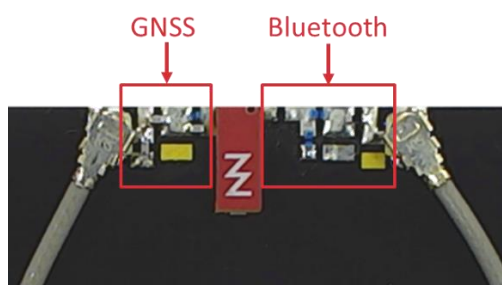
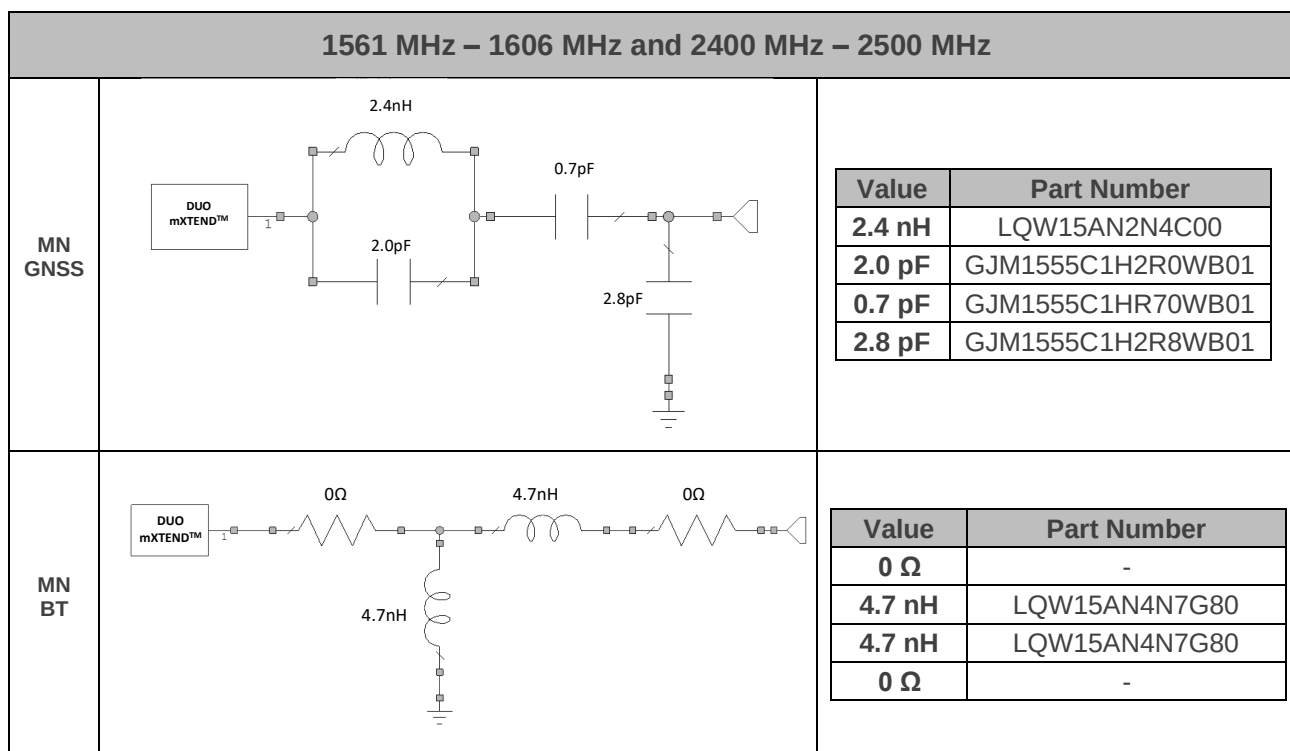

Figure 2 – Matching network distribution in the Evaluation Board (Figure 1).
Figure 3 – Matching network implemented in the Evaluation Board 1 port (Figure 1).
The DUO mXTEND[™] needs two matching networks to connect to your device, a first for the Bluetooth port, a second for the GNSS one (Figure 2). This section describes (in Figure 3) a suitable matching network for the DUO mXTEND[™] and the resulting product specs when measured in the reference evaluation board (EB_NN03-320-m-GNSS-BT) described in the previous section. Please note that different tracking devices with different form factors, RF ground planes, and nearby components may need a different matching network. If you need assistance to design your matching network beyond this application note, please contact support@ignion.io, or if you are designing a **different device size** or a **different frequency band**, we can assist you in less than 24 hours. Please, try our free-of-charge¹ [Oxion[™] platform](#), which will get you a complete design report including a custom matching network for your device in 24h¹. Additional information related to Ignion's range of R&D services is available at: <https://ignion.io/rdservices/>
To ensure optimal results, the use of high-quality factor (Q) and tight tolerance components is highly recommended (e.g., Murata components with part numbers as in Figure 3). The antenna performance is always conditioned by its operating environment so that different devices with different printed circuit board sizes, components nearby the antenna, LCDs, batteries, covers, connectors, etc. affect the antenna performance. Accordingly, it is highly recommended placing pads compatible with 0402 and 0603 SMD components for a matching network as close as possible to the feeding point of the antenna element. Do it in the ground plane area, not in the clearance area. By tuning the matching network in your final design with your final surrounding components (batteries, displays, covers, etc.) you will be able to optimize the antenna performance without changing the antenna part.